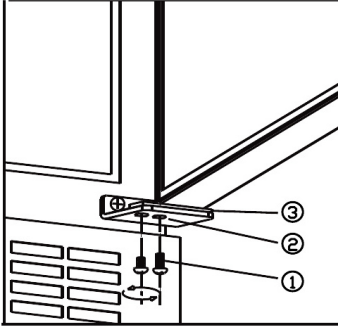

fig. 8.1
- Dismount the screws (1) SUPPORT THE DOOR! See fig. 8.1